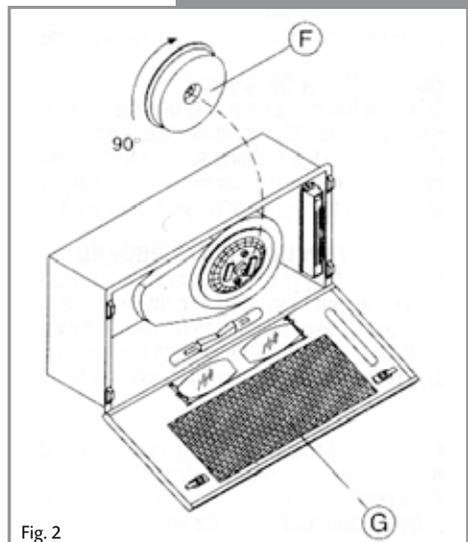

Fig. 2
3. Connect the exhaust pipe to the duct adapter (B in figure 2.) and locate on the extractor, as indicated. We recommend the use of 120mm (5") ducting, although 100mm can be used with the use of a 120-100mm converter; Note that this will affect performance.